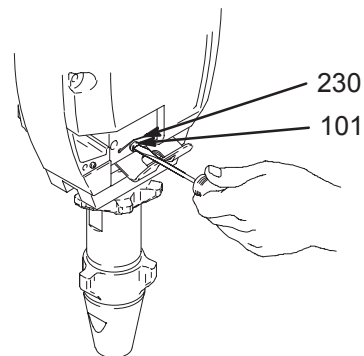

Fig. 17
5. Fig. 17. Use screwdriver to push out pump pin (101).
2. Fig. 17. Push pin (101) into hole until retaining clip (230) engages pump pin groove.
1. Remove pump (28).
2. Remove two bolts (86), washers (25), pump bracket (85), pail hook (94) and shield (95).
3. Fig. 17. Remove clip (230).
1. Fig. 17. Install clip (230).
2. Install shield (95), pail hook (94) and pump bracket (85) with two washers (25) and bolts (86). Torque bolts to 40 ft-lb (54 N•m).
3. Install pump (28).